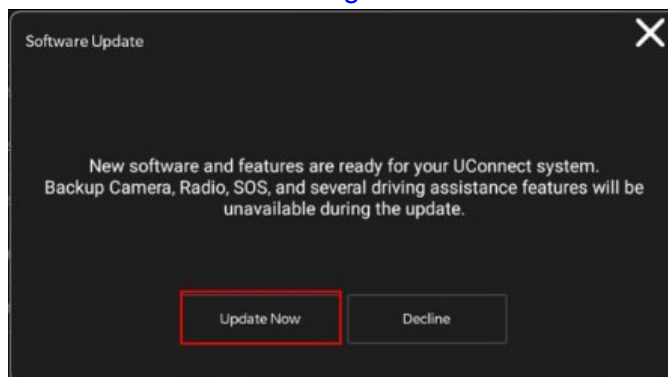

Fig. 2
- Once the system has verified there is an available update, press the "Update Now" button. Make sure the vehicle is in park. Do NOT turn the ignition off until the two minute timer has expired. The ignition doesn't have to be turned off to update the radio's software Fig. 2.